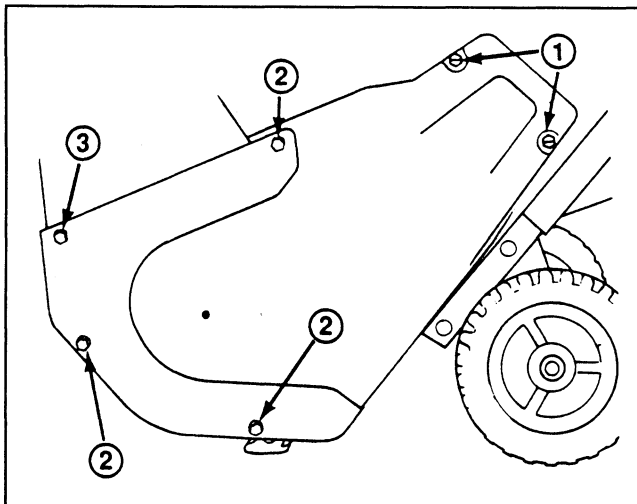

Figure 13
REPLACING DRIVE BELT (Fig. 13–14)
4. Remove (3) self tapping screws, (3) capscrews, (1) washer, and (3) nuts securing left side cover to snowthrower frame (Fig. 13). Lift off left side cover and allow it to hang from the cable.